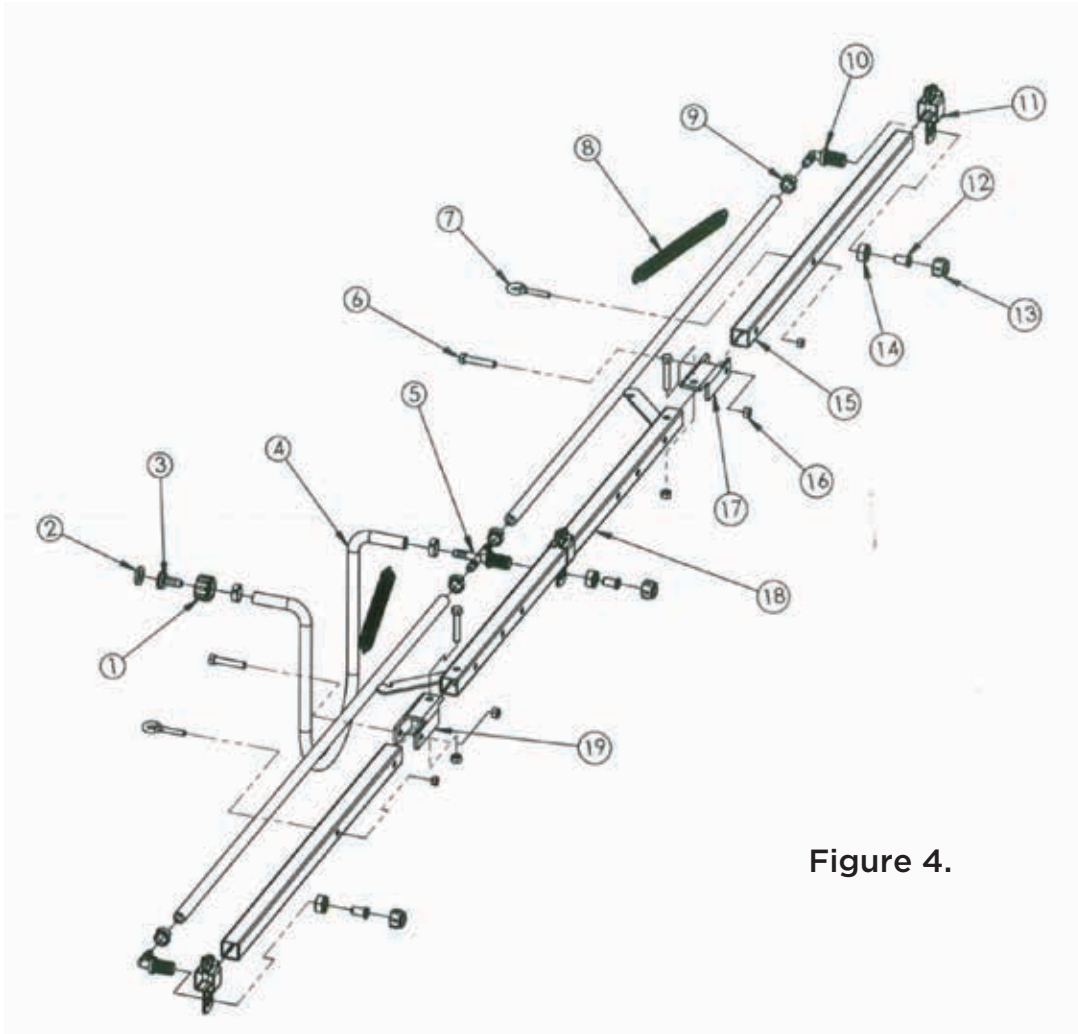

Figure 4.
- 1.) Extend the ten foot boom on a flat surface and remove the two loose bolts located on the end of the center boom section. Position the hinge over the holes in the center boom section and place bolts through holes. Tighten the bolt securely but ensure the hinge moves freely in both directions, see figure 4.
- 2.) Attach two Extension Springs (PN 33-100117) to center boom spring mount and eye bolt located on boom, see figure 4.